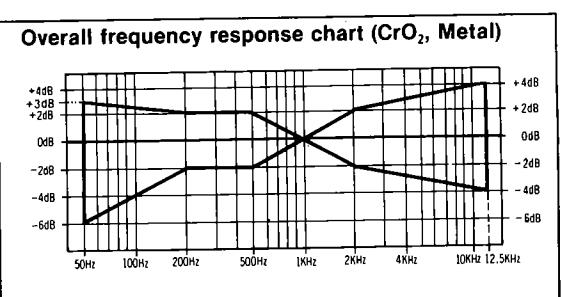

Fig. 14
8. Change test tape to CrO_2 reference blank test tape (QZZCRX), and record 1kHz, 50Hz, 100Hz, 200Hz, 500Hz, 4kHz, 8kHz, 10kHz and 12.5kHz signals. Then, playback the signals and check if the curve is within the limits shown in the overall frequency response chart for CrO_2 tapes (fig. 14).
9. Place UNIT into metal tape mode and change test tape to metal reference blank test tape (QZZCRZ), and record 1kHz, 50Hz, 100Hz, 200Hz, 500Hz, 4kHz, 8kHz, 10kHz and 12.5kHz signals. Then, playback the signals and check if the curve is within the limits shown in the overall frequency response chart for metal tapes (fig. 14).